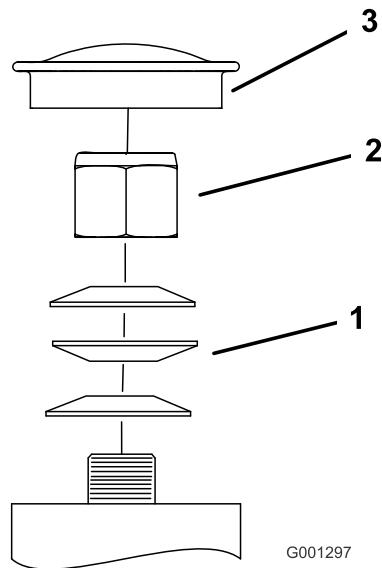
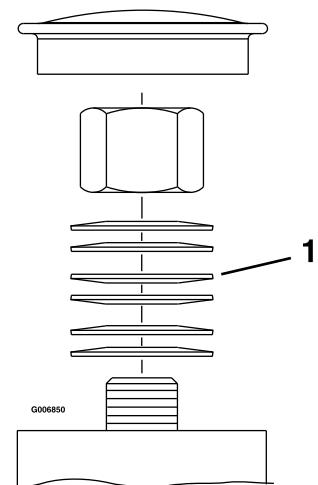

Figure 46
Figure 47
3. Remove the dust cap from the caster and tighten the locknut (Figure 46 and Figure 47).
4. Tighten the locknut until the spring washers are flat and then back off a 1/4 turn to properly set the pre-load on the bearings (Figure 46 and Figure 47).
Important: Make sure that the spring washers are installed correctly as shown in Figure 46 and Figure 47.